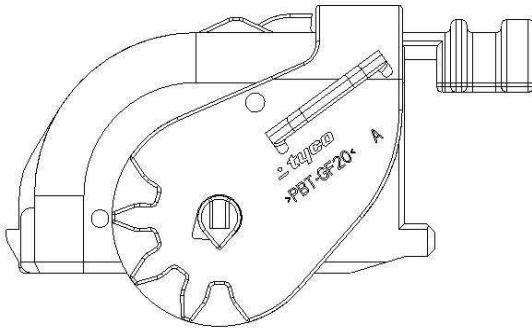

Fig. 14
NOTE: Check Lever position of the cover assembly. It must be same as shipping condition. (See Fig. 14.)
- (1) Confirm the Lever is Final lock. (See Fig. 14)